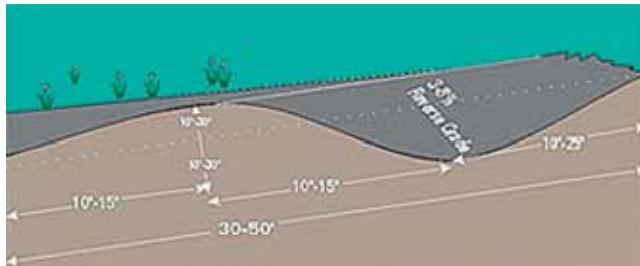

Fig. 3. Rolling dips.
- **Rolling Dips** are designed to include a short section of reversed road grade that ensures water will be diverted (Fig. 3). Rolling dips can cause vehicle bounce and trouble for trailer hitches or low clearance trailers. Rolling dips should be at least 10 to 30 inches below grade and have a 10- to 25-foot approach on the downhill side.